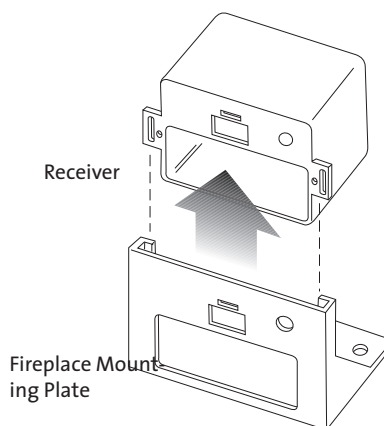

Figure 38. Remove the Receiver from the fireplace mounting plate.
- c) Slide the receiver box out from the plastic fireplace mounting plate. See fig. 38.